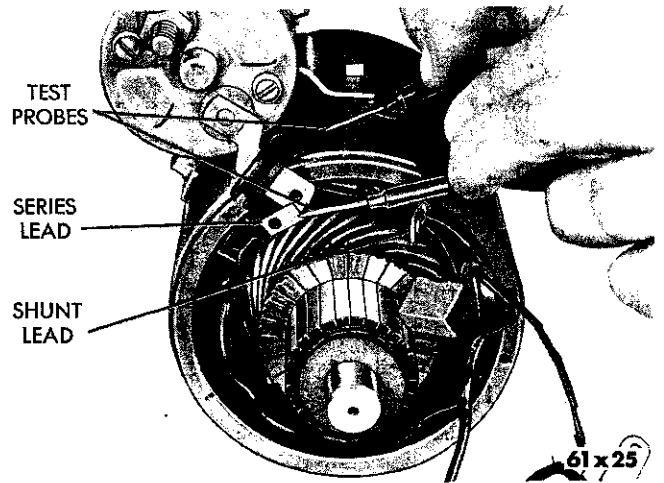

Fig. 10—Testing the Series Coil for Ground
(5) Touch one probe of the test lamp to the series field coil lead and the other probe to the field frame (Fig. 10). The lamp should not light.